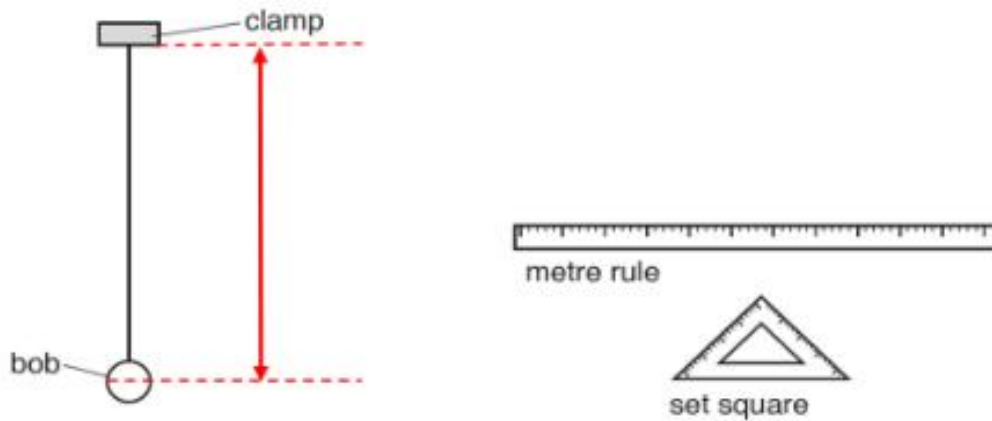

Fig. 4.1
Fig. 4.1 shows the apparatus.
- (a) (i) On Fig. 4.1, show clearly the length l of the pendulum. [1]